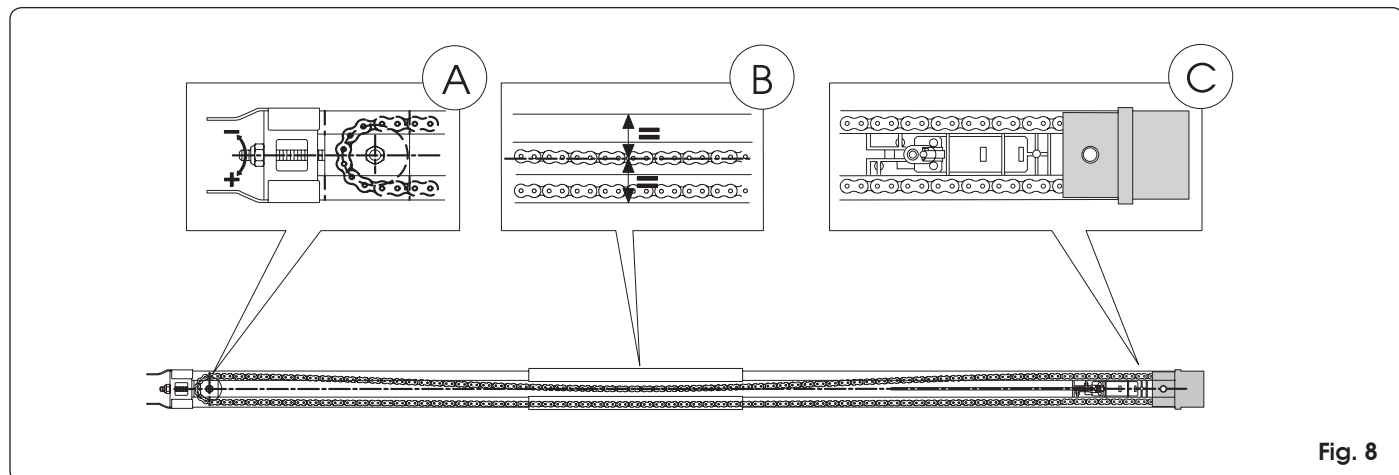

Fig. 8
- 5) Place the sliding guide on the side (Fig. 8).
- 6) Push the carriage toward the drive clutch unit (Fig. 8 ref. C).
- 7) Adjust the tensioner (fig. 8 ref. A) so that the central zone of the loop, formed by the top branch of the chain, coincides with about the mid-point of the sliding guide (Fig. 8 ref. B).